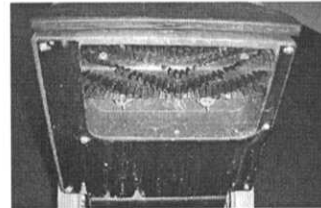

Figure 18
5. Remove any entangled carpet fibers and debris from brush (Figure 18).